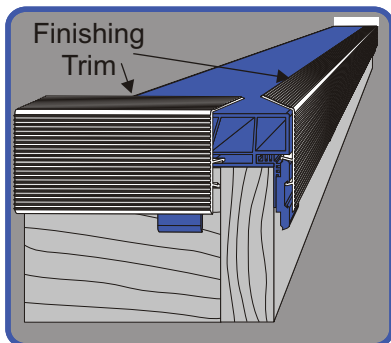

Figure 8
Step 7. Snap finishing trim to anchor biscuits to conceal the exposed edges and sides of deck boards (see Figure 8). Finishing trim may be miter cut, or notched and bent, to accommodate deck corners.